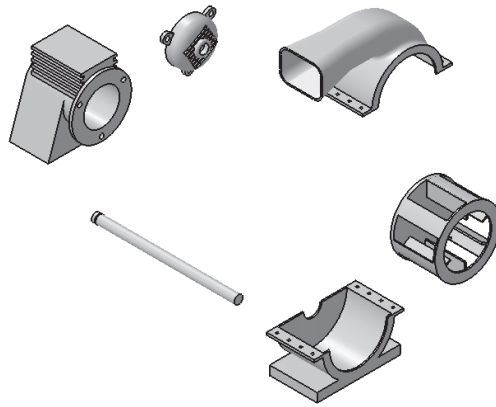

Figure 11-79 The exploded view of the Blower assembly
3. Choose the **Apply** button from the **Explode** dialog box to generate the exploded view. The **Information Box** will be displayed. Choose the **OK** button from the **Information Box** to close it. The exploded view of the Blower assembly is shown in Figure 11-79.